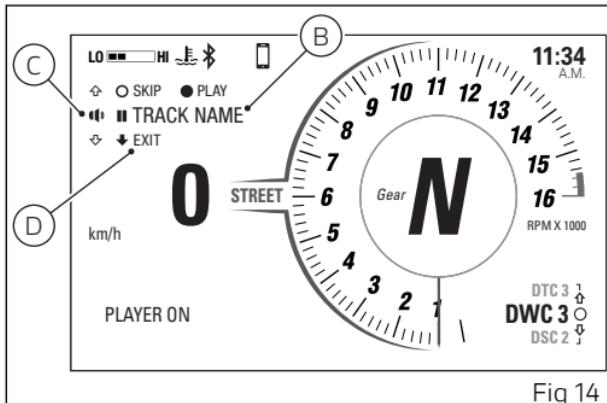

Fig 14
Buttons (1), (2) and ENTER (3) will be again used by the instrument panel only for the music player controls (Fig 14).